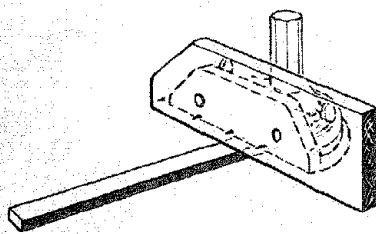

Figure 65
6. An auxiliary wood extension bolted to the miter gauge greatly improves the gauge as a support. (See figure 65.) Sandpaper glued to the extension will help prevent side creep of the work.